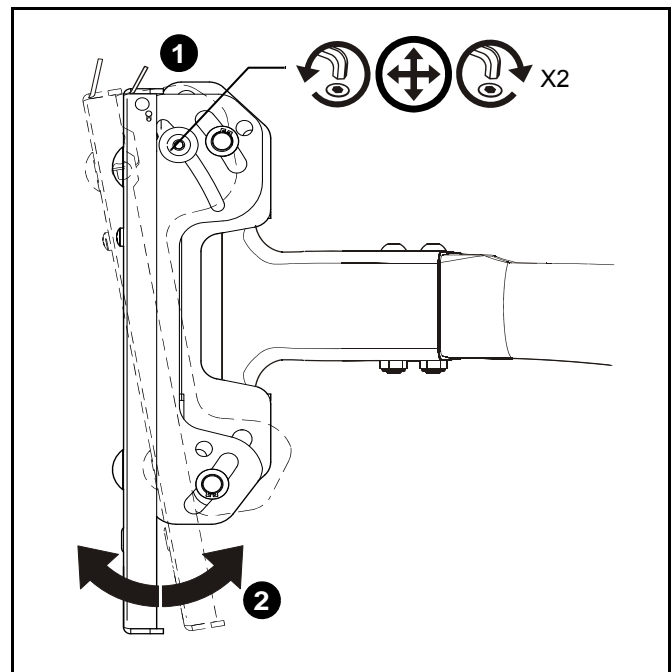

Figure 11
1. With display installed, tighten or loosen two screws, one on each side, using the 5/32" hex wrench. (See Figure 11)